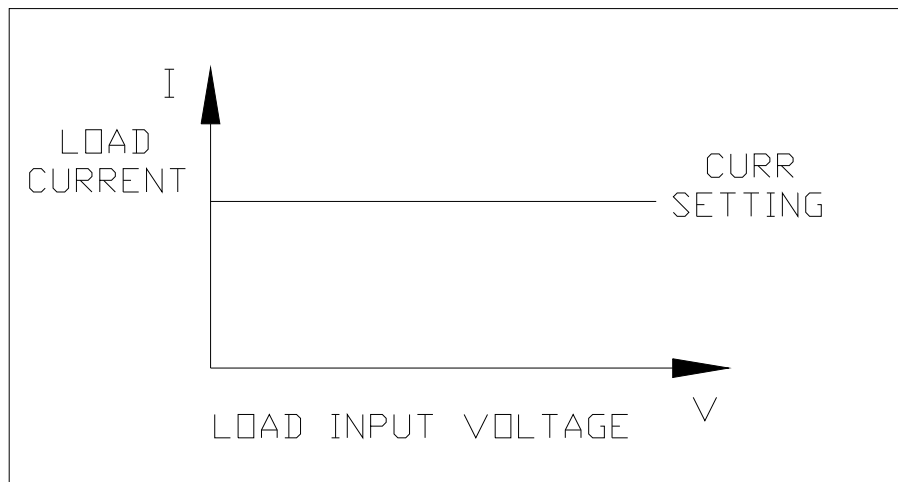

Figure 3-3 Constant Current Mode
In CC mode two operation functions (STATic, DYNAmic) may be selected. The STATic function checks the stability of the output voltage from a power supply. In some modules (single channel/module) there are two current levels (A or B) for the static function. Both states A and B use the same range. The user can select A (CCL1 or CCH1) or B (CCL2 or CCH2) through the **A/B** key on the module's keypad or the mainframe keypad when level1 (A) or level2 (B) changes. Slew rate determines the rate at which the load level changes from one level to the other. Figure 3-3 shows the current level of the load module after pressing of **A/B** key.